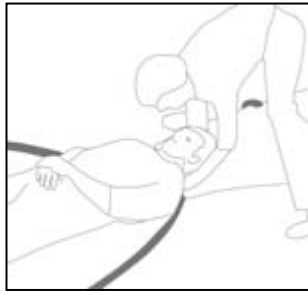

Fig. 5
- Slide patient to centre of the stretcher. Be sure to keep spinal column as straight as possible (fig. 5).